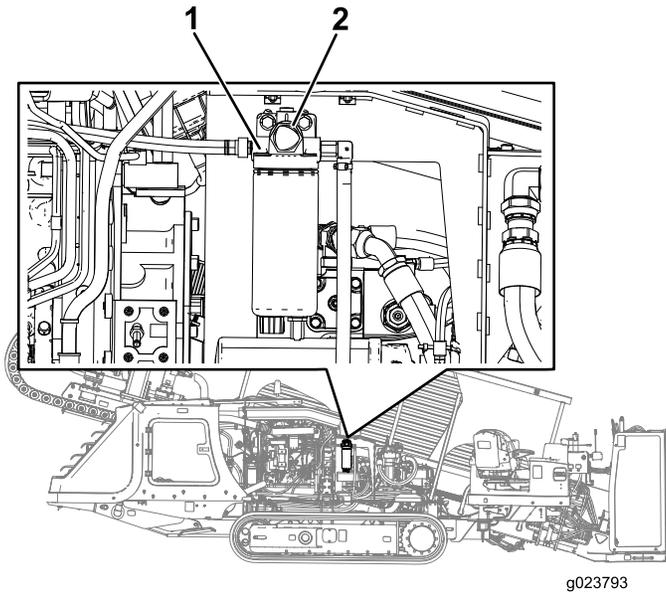

Figure 95
6. Locate the PRIMING button on the top of the filter adapter for the primary fuel filter (Figure 95).
7. Press down and release the PRIMING button repeatedly until you feel resistance when pressing the PRIMING button (Figure 95).
3. Place clean rags under the primary fuel filter (Figure 95).
4. Loosen the hose clamps and separate the primary fuel filter from the fuel hoses (Figure 95).
6. Slip the hoses over the hose fitting of the primary fuel filter, and tighten the hose clamps (Figure 95).